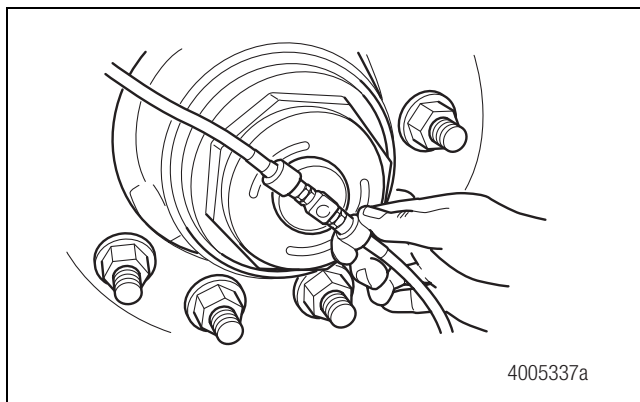

Figure 3.10
12. When the test-tire pressure is correct, hand-tighten the remaining tire hoses to the through-tees. Do not use pliers. The tire inflation system will inflate all of the tires to the specified pressure. At this point, the system is fully assembled. Figure 3.10.